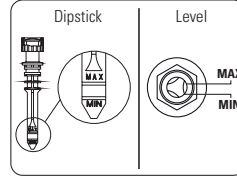

FIGURE 9.6
1. Check oil level (Figure 9.6) (For oiled compressors).